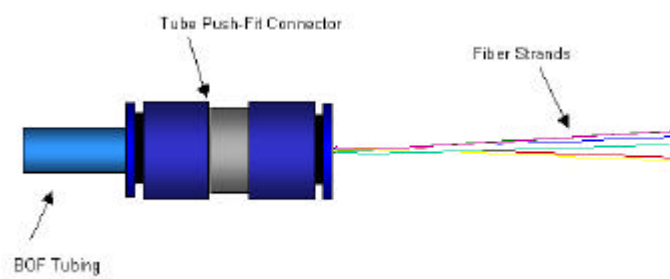

FIGURE 3. BOF tube and fibers.
Step 7 – Insert the individual fibers into a tube coupler. Slide the tube coupler over the fibers to the BOF tube. Apply a thin layer of caulking compound around the last 6 mm (0.25 in) of the BOF tube. Slide the tube coupler onto the BOF tube and firmly seat the tube within the tube coupler (see figure 3).